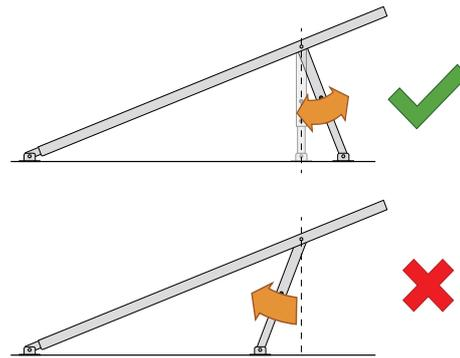

Fig 1
3. Adjust the stand side section until the front foot sits over suitable fixing substrate (i.e. purlin) and repeat process outlined in step 1. (Ensure that back leg section maintains a structural angle as shown in fig 1)